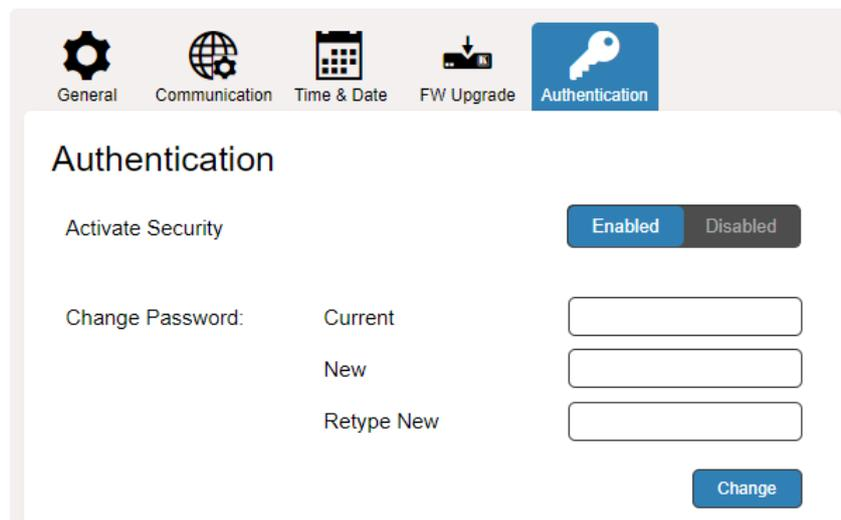

Figure 23: Device Settings Page – Authentication Tab
2. Select the Authentication. The Authentication tab appears (Figure 23).